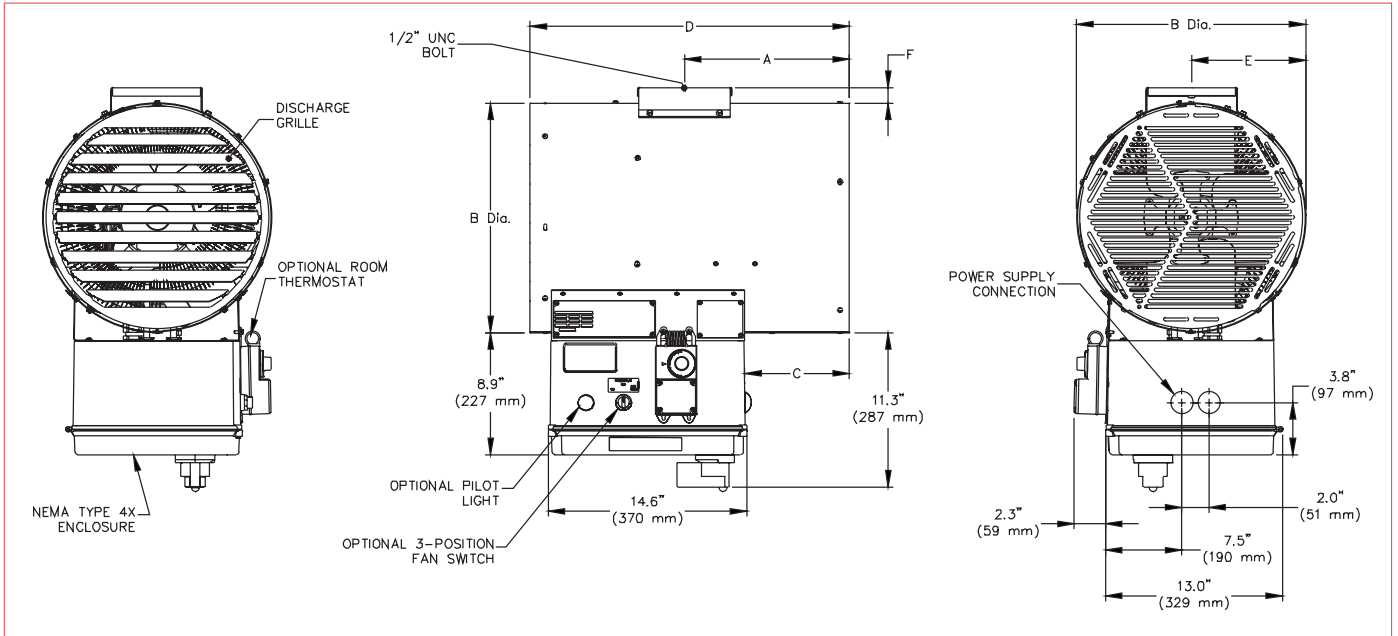

Figure 1
To prevent risk of fire, install heater according to minimum clearances stated in Figure 1 below.
1. Ensure there are no obstructions that may impede the heater's air inlet or discharge (see Figure 1 for minimum clearances).